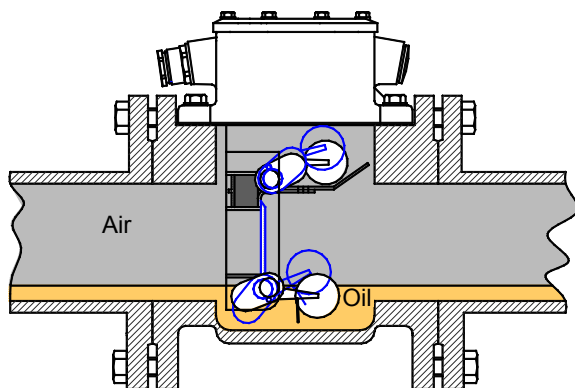

Figure 8 - Insulating liquid loss
3.2 Insulating liquid loss (Figure 8)